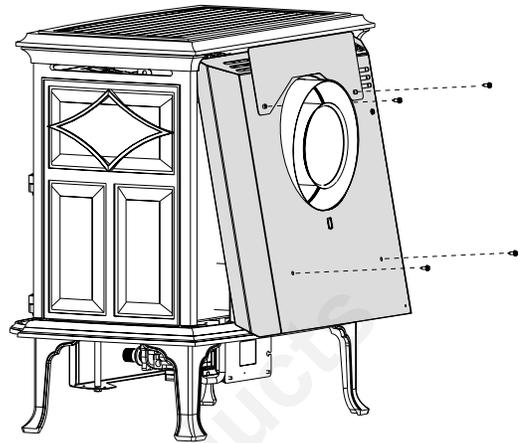

Figure 13. Remove rear shroud to access the Adaptor Collar.
- **Vertically terminated vent runs require 4/6 vent pipe. Use Vertical Vent Adaptor Kit 157674. See figs. 13 and 14.**